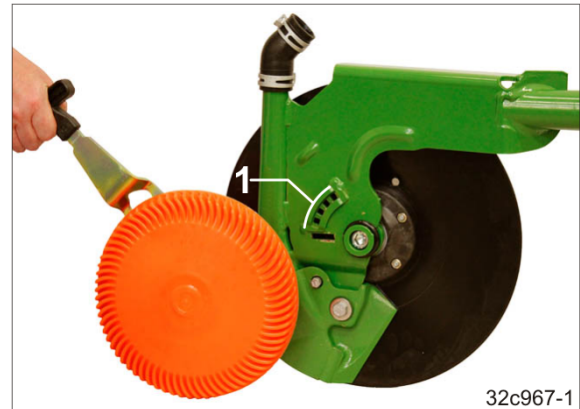

Fig. 181
1. Turn the handle beyond the engagement catch (Fig. 181/1) and remove the plastic disc from the RoTeC coulter.